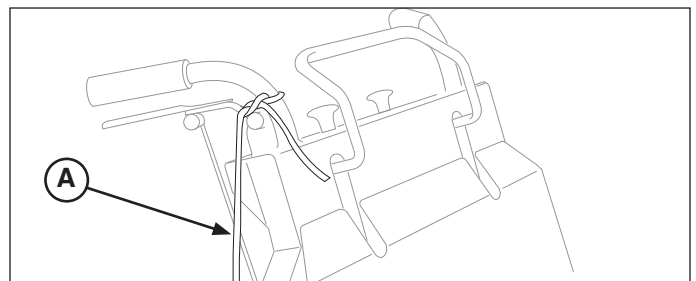

Figure 8. Tying the Bagger Dump Rope
1. Tie the bagger dump rope (**A, Figure 8**) to the handle bars of the machine as shown in Figure 8. Take care to ensure that enough slack of the rope is used so that rope does not rest against any hot surfaces or any moving parts that it could possibly be entangled in. Also make sure that the rope is NOT so tight that prevents the collector bag from sitting firmly against the bagger mount weldment.